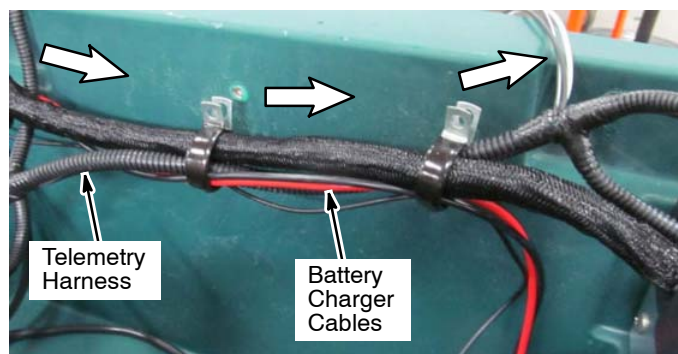

FIG. 29
15. Continue routing the telemetry harness and battery charger cables through the existing cable clamps as shown (FIG. 29). If unable to route all cables through clamps, secure the telemetry harness to the main machine harness using cable-ties.